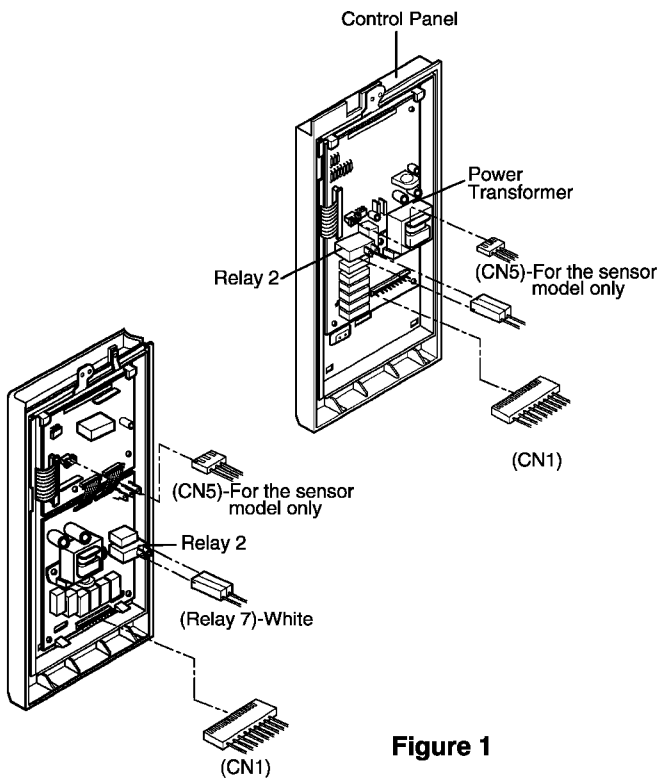

Figure 1
A. REMOVING POWER AND CONTROL CIRCUIT BOARD (Figures 1, 2 and 3)
- (1) Remove a screw securing the control panel assembly to the oven cavity.
- (2) Remove the control panel with pushing it upward.
- (3) Remove the three connectors (CN1, CN2, CN3) and wire leads (Relay7) from the circuit board.
- (4) Remove 3 screws securing the circuit board.